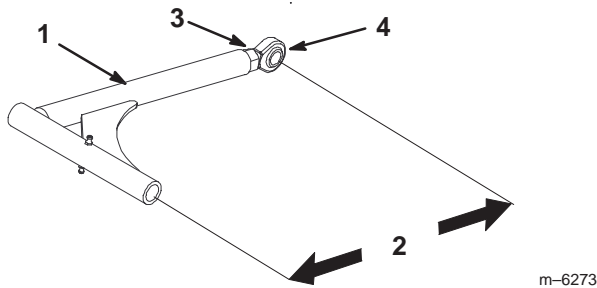

Figure 63
1. To adjust push arms, loosen jam nut and rotate ball joint counterclockwise, one turn at a time. (Fig. 63).
2. Adjust each side the same amount. Each push arm should have a nominal length of 15-5/16 inch (389mm) (Fig. 63).